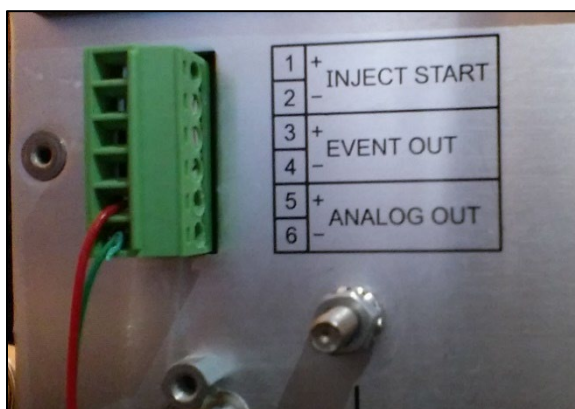

Figure 4: Auxiliary channel connection on the rear panel of the ACQUITY UPLC UV Detector. A RJ-12 cable is connected to the Analog out port.
2. Pull out the screw terminal connector on the back of the Waters detector (Figure 4).
- Attach two of the wires of the RJ-12 cable (see Table 1 for wire colors) to screw terminals 5 and 6 of the I/O signals connector on the back panel of the ACQUITY UPLC UV detector (Figure 4) using a flat head screwdriver. Make sure the wires are secure and contact with the connector is achieved.
Note: The ACQUITY UPLC UV Detector only has one available analog output available on the rear panel (refer to Figure 4). An “ANALOG 2” port may be available depending on the type of ACQUITY UPLC system concentration detector being connected. For example, the *ACQUITY UPLC system Photodiode Array eλ detector* typically has two analog out ports. In this later case, the second set of flying leads (black & white or red & green) may be used to output a second signal to the microDAWN MALS detector instrument. Please follow the directions above to connect a second set of wires to the output ports on the green connector corresponding to the “ANALOG 2” ports to use the second AUX channel.